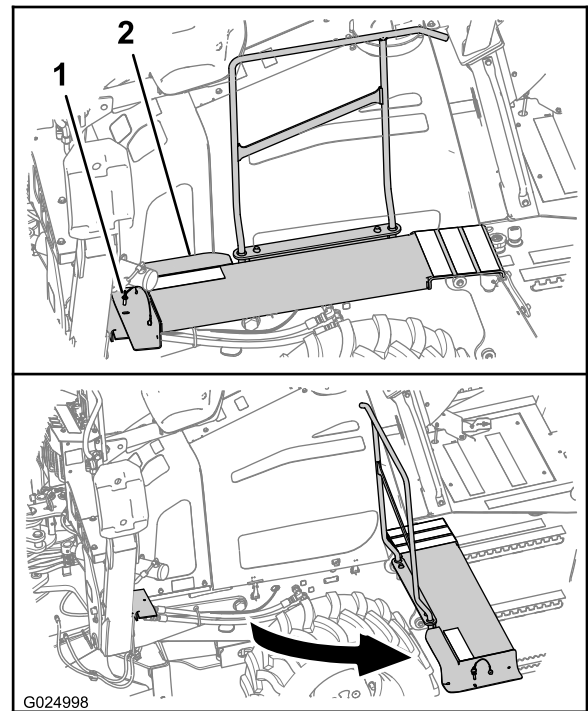

Figure 59
- A. At the left side of the machine, remove the retaining pin from the front end of the walkway (Figure 59).
- B. Pivot the walkway away from the machine as shown in Figure 59.
- A. Rotate the front end of the walkway to its original position (Figure 59).
- B. Align the hole in the walkway with the hole in the walkway support bracket (Figure 59).